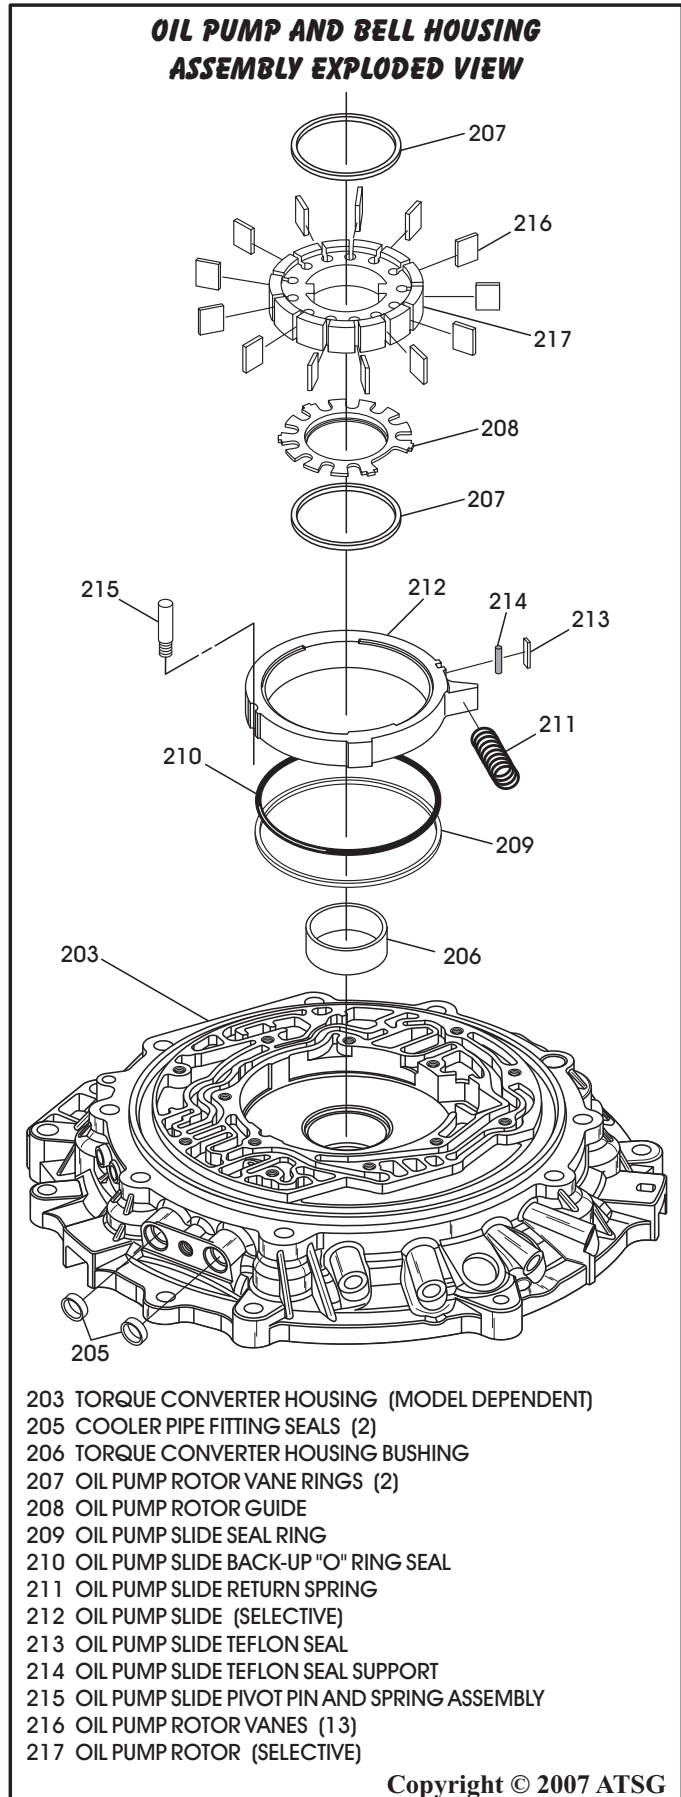

Figure 61
5. Disassemble the rotor, vanes, and slide from the converter housing, as shown in Figure 61.
6. Remove and discard the pump slide "O" ring (210) and slide seals (213 & 214), as shown in Figure 61.